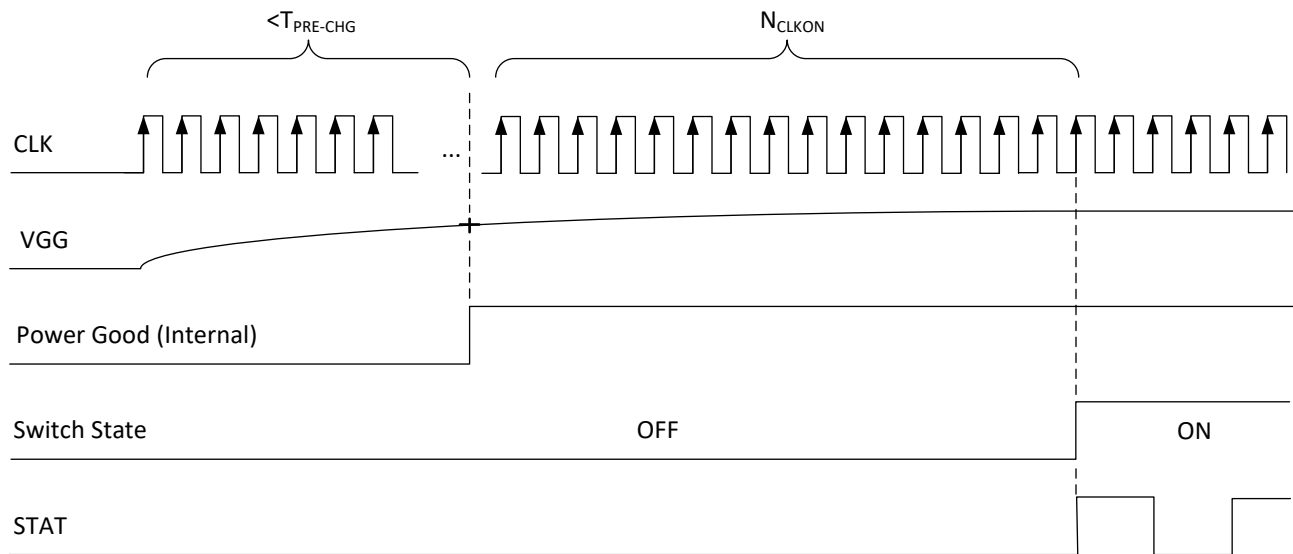

Figure 2: On Sequence
An initial pre-charge period must be provided to the device in order to bring up the local supply, VGG. The switch will be closed a number of clock pulses,  $N_{CLKON}$ , after the VGG voltage has reached its internal Power Good threshold. At this point, the switch will transition to the closed (ON) state. This sequence is shown in Figure 2. The on-state of the switch can be verified by the presence of pulses on the STAT pin.